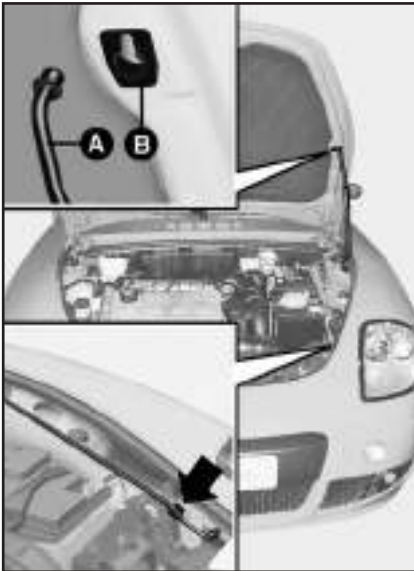

fig. 74
3) Lift the bonnet gripping it in the centre of its front edge and, at the same time, release support rod **A**-fig. 74 from its clip.